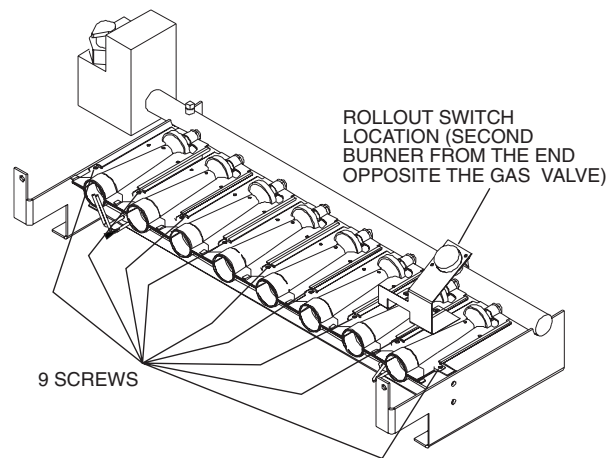

Fig. 3 — Burner Removal and Rollout Switch Location
1. Remove the 9 screws securing the burners and rollout switch to the manifold. See Fig. 3. Save screws.
5. Reattach the burner manifold assembly to the burner brackets using the screws saved from Step 1. Make sure that all orifices have been installed. Reattach the rollout switch at the same time. Make sure the switch is located in its original position. See Fig. 3.